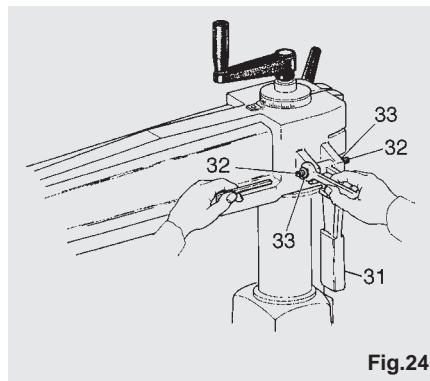

Fig.24
- Raise the arm locking handle (31) (see figure 24).
- Turn adjusting grub screws (32) so as to move the lever and eliminate the defect.
- Lower the wedge lever again and tighten lock nuts (33).